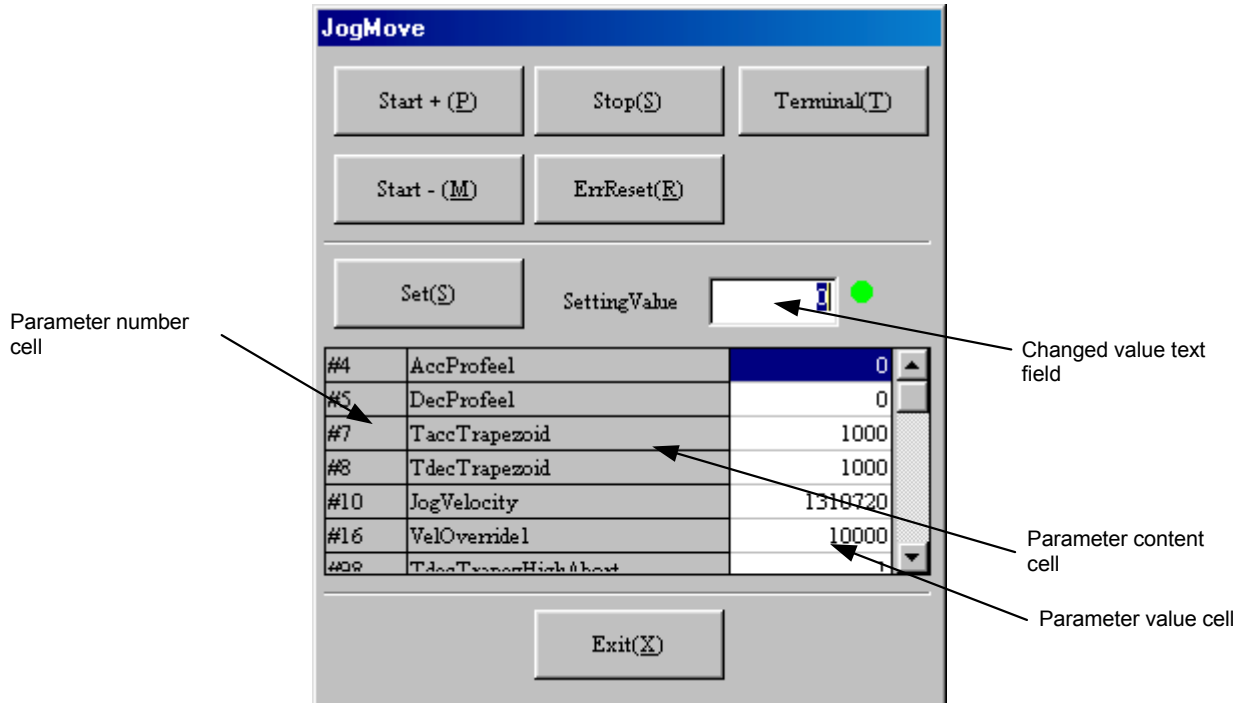

Figure 8.22 “JogMove” dialog box
Click “Jog (J)” in the “DriveMenu” dialog box to display the “JogMove” dialog box (see Figure 8.22). If the connection with the driver is established, the current values of the related parameters are read and can be edited.